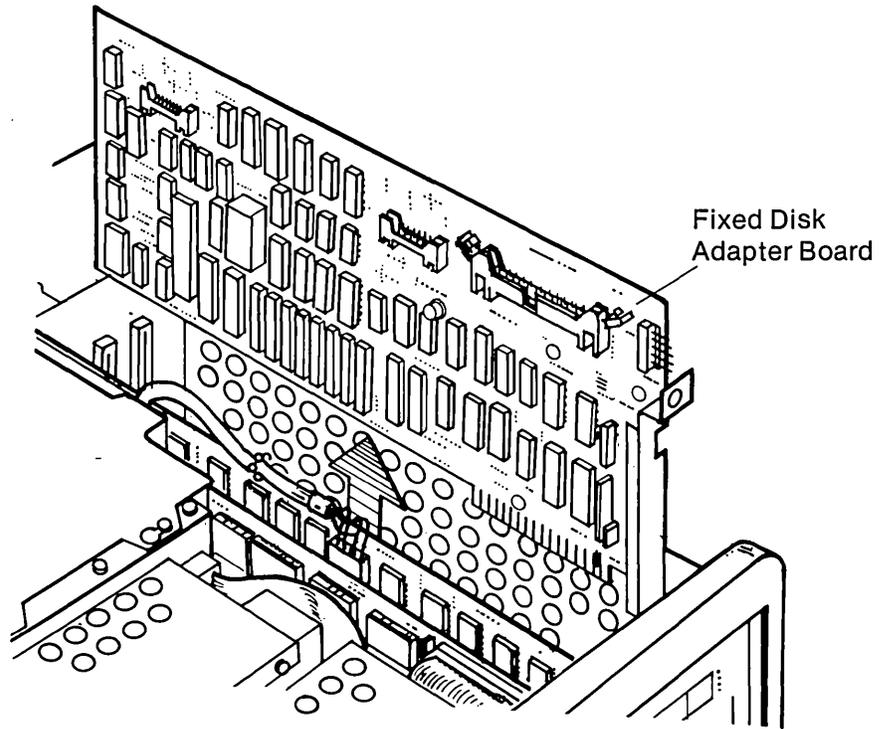

Figure 10-7. Removing the Fixed Disk Adapter Board.
- 6 Gently remove the fixed disk adapter board assembly by pulling it away from the processor board (see Figure 10-7).